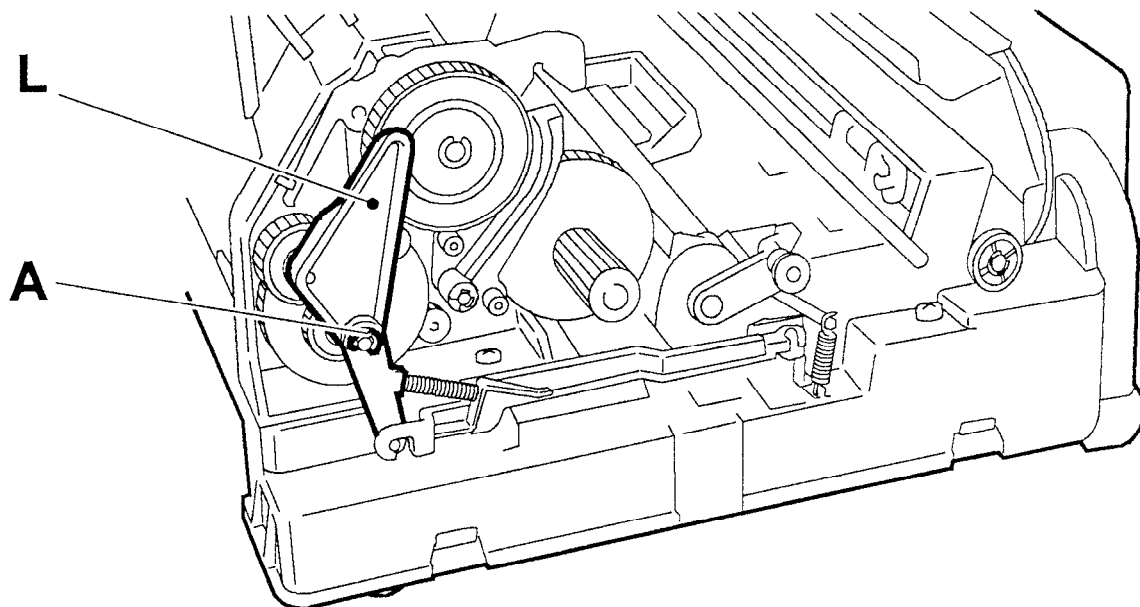

Fig. 7-46
3) Remove bracket **A** and extract lever **L** with the related mechanisms (Fig. 7-46):